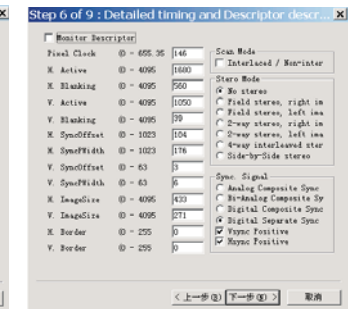

Fig. 40
5. Click Next, bring up Fig. 40.
1. Configuration should be as Fig. 40. And press OK.